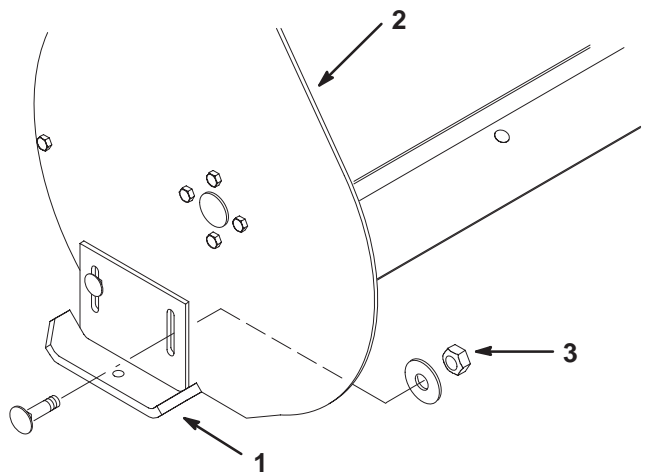

Figure 41
3. Loosen the nuts securing the skids to the housing until the skids slide up and down easily (Fig. 41).
4. Raise or lower the skids equally on both sides to obtain level scraping action, and tighten nuts securely (Fig. 41).